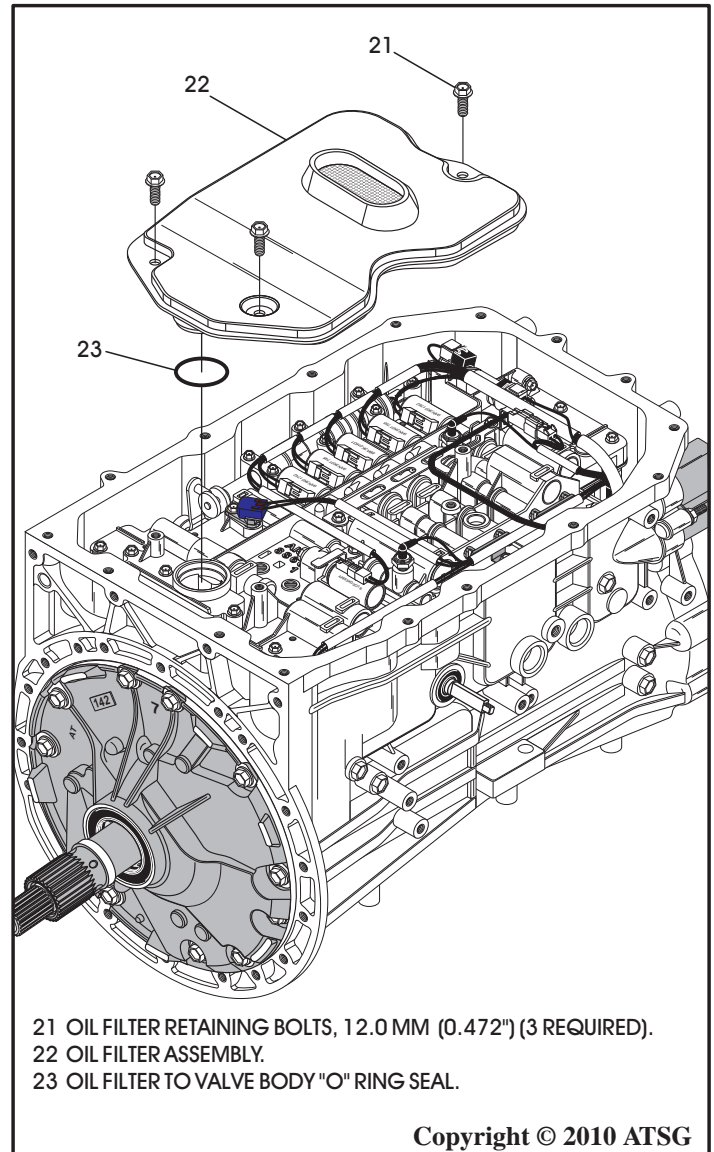

Figure 236
65. Install new "O" ring seal on new oil filter as shown in Figure 236, and lube "O" ring with a small amount of Trans-Jel®.
66. Install oil filter and torque the 3 retaining bolts to 11 N·m (97 in.lb.) (See Figure 236).